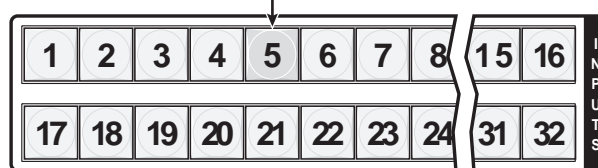

Figure 3-7 — Select an input
3. Press and release the input 5 button (figure 3-7).